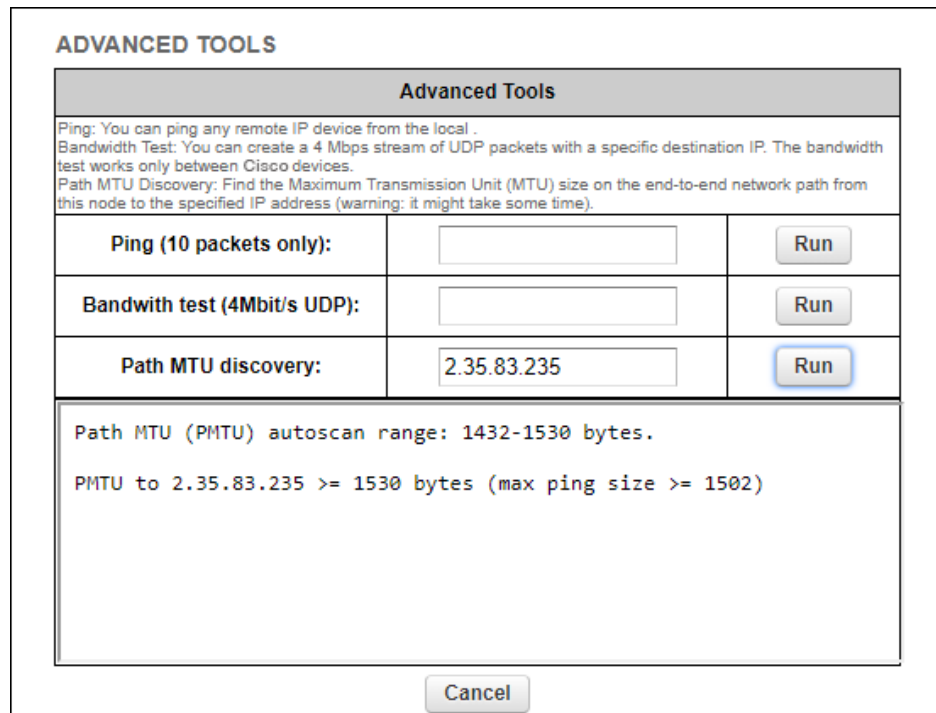

Figure 30. Advanced Tools window (Path MTU test tool)
2. Enter the IP address of the second unit in the **Path MTU discovery** field (Figure 30 (page 87)).